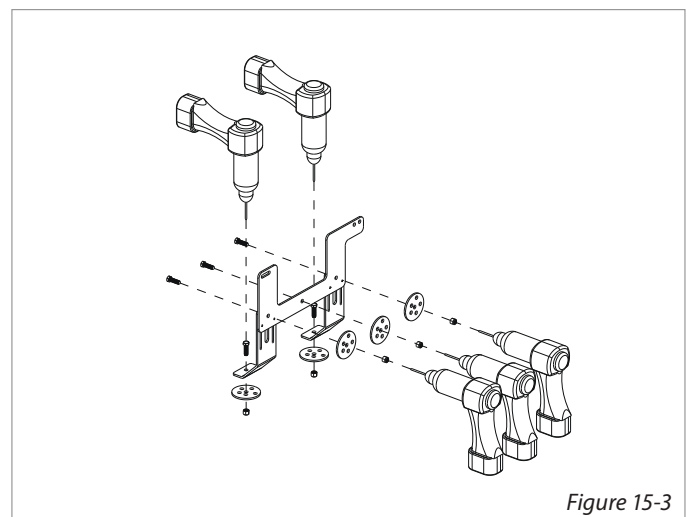

Figure 15-3
- Drill two 3/8" holes in floor of well using joiners as template. Fasten 3/8" hardware (x2). *[Figure 15-3]*
- **PLUS** Drill three 3/8" holes through back well wall using joiners as template to accept full-threaded 3/8" bolts. *[Figure 15-3]*